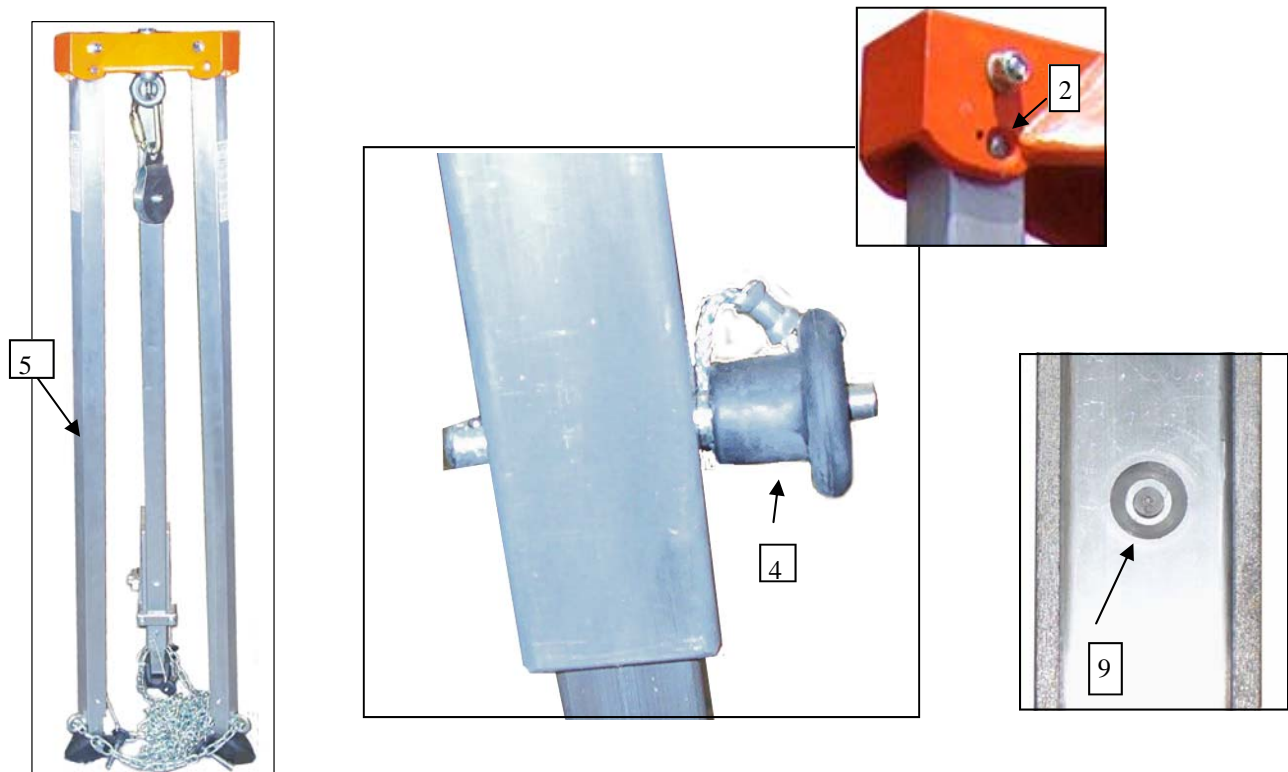

Figure 2
3. After unlocking leg hinges (2) in the Tripod head (1) by pressing each leg button (2), press leg release button (9), and gradually push each leg (5) to the Tripod center point and embrace all three legs (5). Lower the Tripod to the ground.
Pull the leg lock pins (4) and push leg latch release button (9), and lower leg sections into the upper leg sections. Lock the contracted legs (5) in the storing position with the lock latch buttons (see Figure 2).
- 1. Always dismount the devices from the Tripod. Store the Tripod in Transport mode (figure 2) in an area free of corrosive elements and excessive heat.**